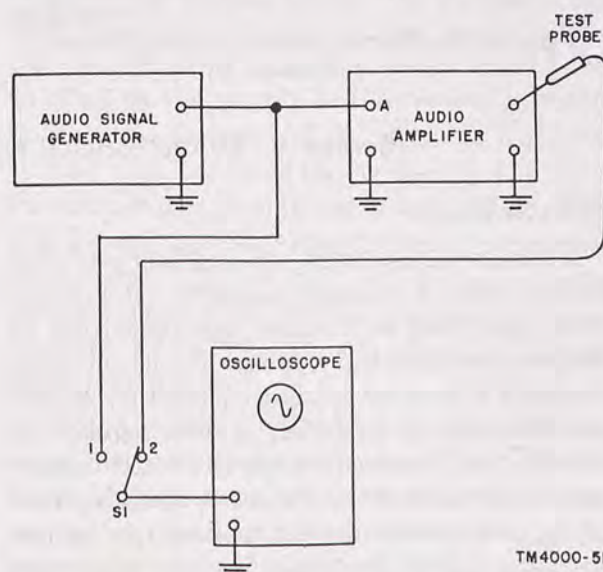

Figure 66. Setup for checking distortion.
d. A more positive method of detecting distortion is by using an oscilloscope and an audio signal generator. The equipment setup is shown in figure 66. Connect the signal generator to the vertical amplifier terminals of the oscilloscope by setting S1 to position 1. This switch is set to position 2 to connect the oscilloscope across the plate load resistor of the stage being checked.